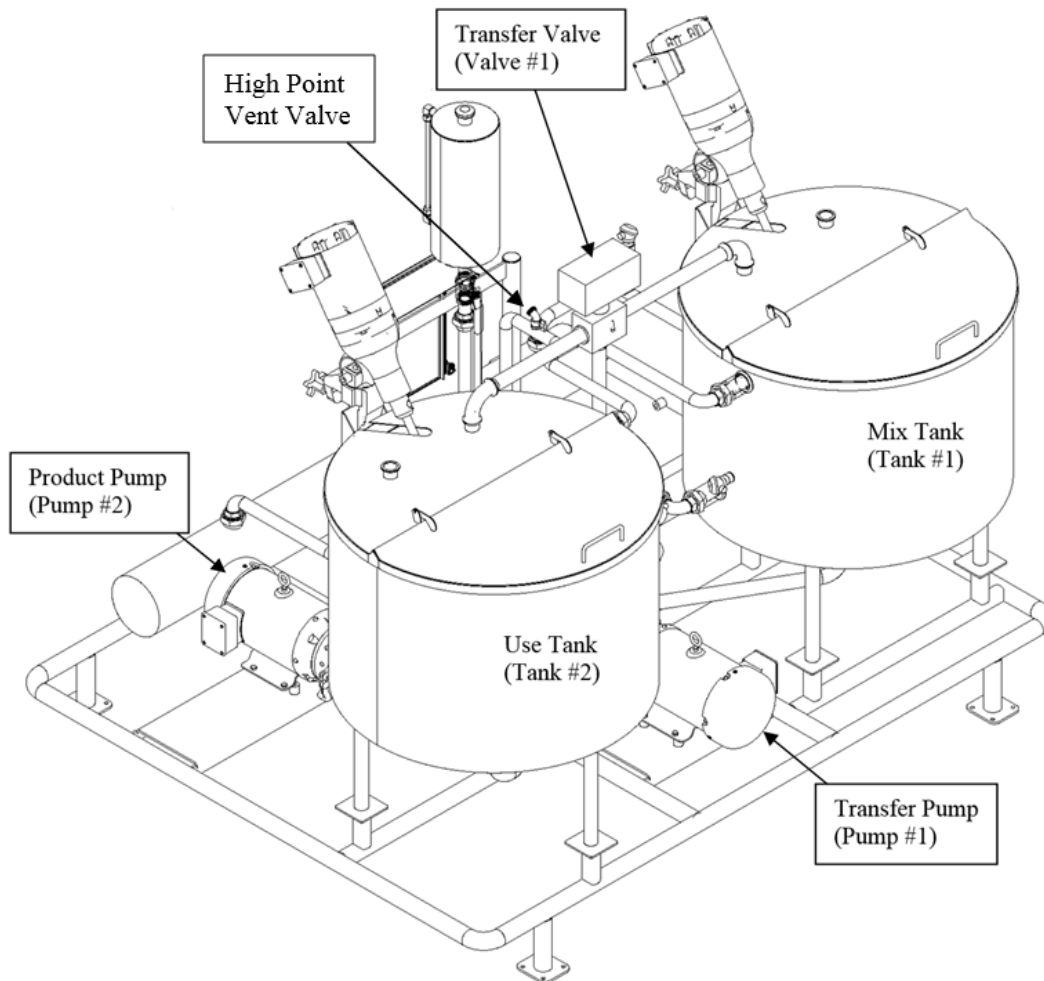

Figure 2: Plumbing Schematic
- Step 1: Remove the cap on the water reservoir and place the water source into the reservoir. Place a garden hose on the high point vent valve positioned at the junction of the Twin Tank water outlets, and the other end place into a drain and open the vent valve (**Figure 2**).
Twin tank slurry mixing systems utilize 2 tanks: one to mix ingredients (Tank #1) and one to supply your application system with slurry (Tank #2) see the figure below (**Figure 2**). The system comes standard with jacketed tanks and a hot water heating system. On the skid there are 3 pumps: One to move a mixture from the mix tank to the use tank (Pump #1); One to move the slurry from the use tank to the day tank slurry skid (Pump #2); One to circulate water from the heater through both jackets of the tanks (not shown).